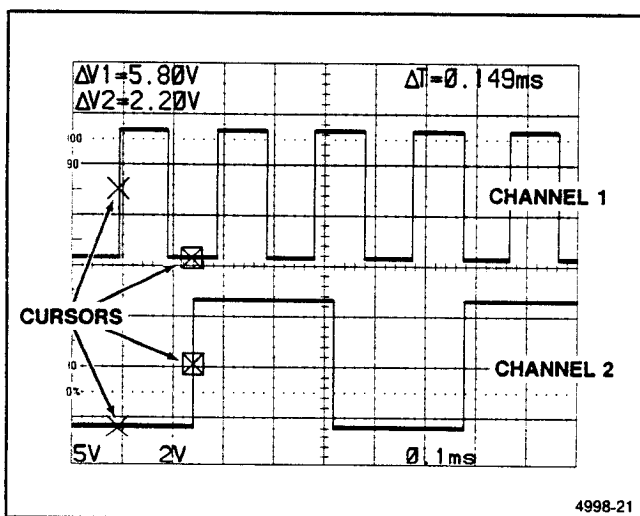

Figure 6-19. Time difference between two time-related pulses.
10. Push the SELECT C1/C2 button to select the other cursor, and use the CURSORS control to position the active cursor at the 50% level of leading edge of the Channel 2 pulse (see Figure 6-19).